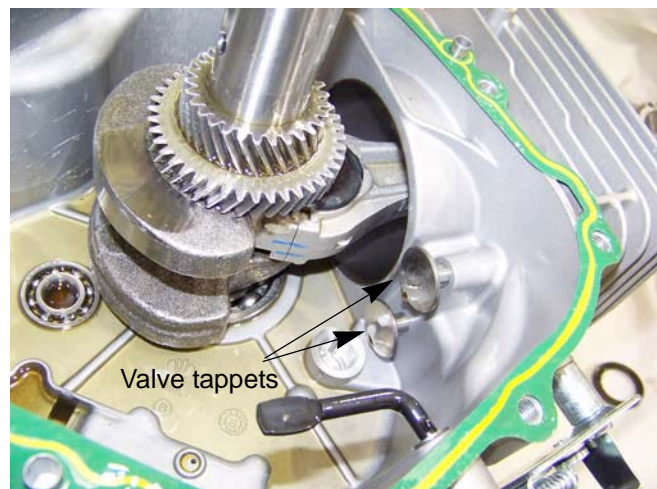

Figure 10.4
14. Remove the valve tappets. See Figure 10.4.